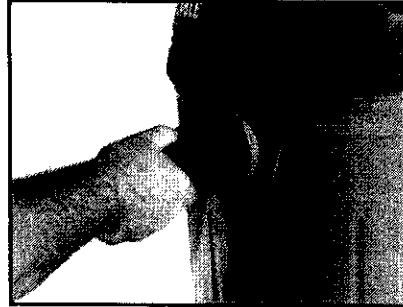

Fig. 3
8. Attach the vacuum hose to the machine (Fig. 3). The Hose is equipped with a bayonet style connector. Align the projection on the side of the Hose connector with the slot in the Container intake port. Slide connector into intake port and rotate one-quarter turn clockwise to lock.